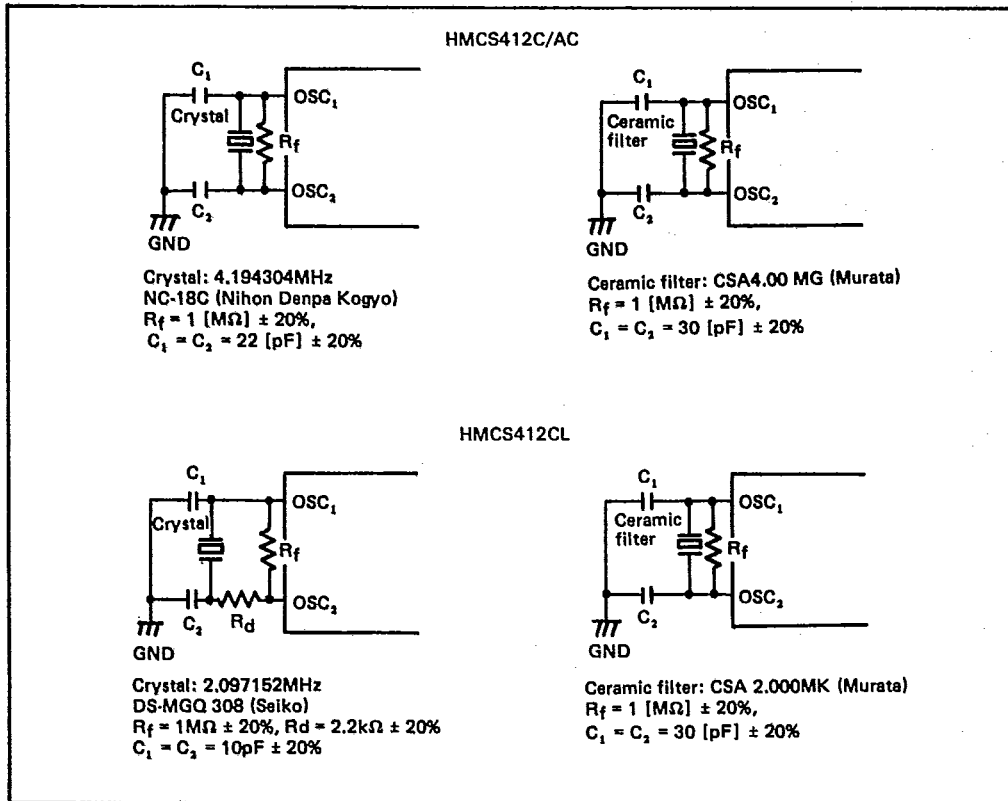

Figure 21. Oscillation Circuit
1. Oscillator stabilization time is the time until the oscillator stabilizes after V_{CC} reaches its minimum allowable voltage (HMCS412C; 3.5 V, HMCS412CL; 2.5 V, HMCS412AC; 4.5 V) after power-on, or after RESET goes high. At power-on or stop mode release, RESET must be kept high for at least t_{RC} . Since t_{RC} depends on the crystal or ceramic filter's circuit constant and stray capacitance, please get the manufacturer's advice when designing the RESET circuit. (See figure 21.)